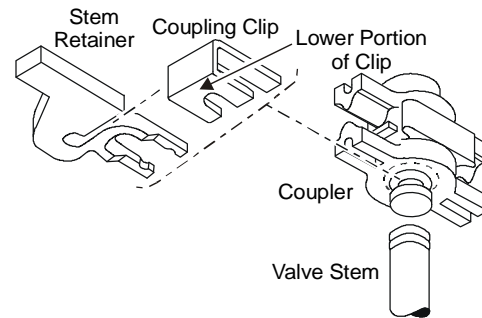

Figure 6: VA-8020-605 Stem Retainer and Clip Kit
- Place the stem retainer and coupling clip over the valve stem, so the lower (shorter) portion of the coupling clip is positioned in the locking groove on the valve stem as shown in Figure 6.
To remove the coupling clip, use pliers to grip the stem retainer and pull outward. (See Figure 6.)